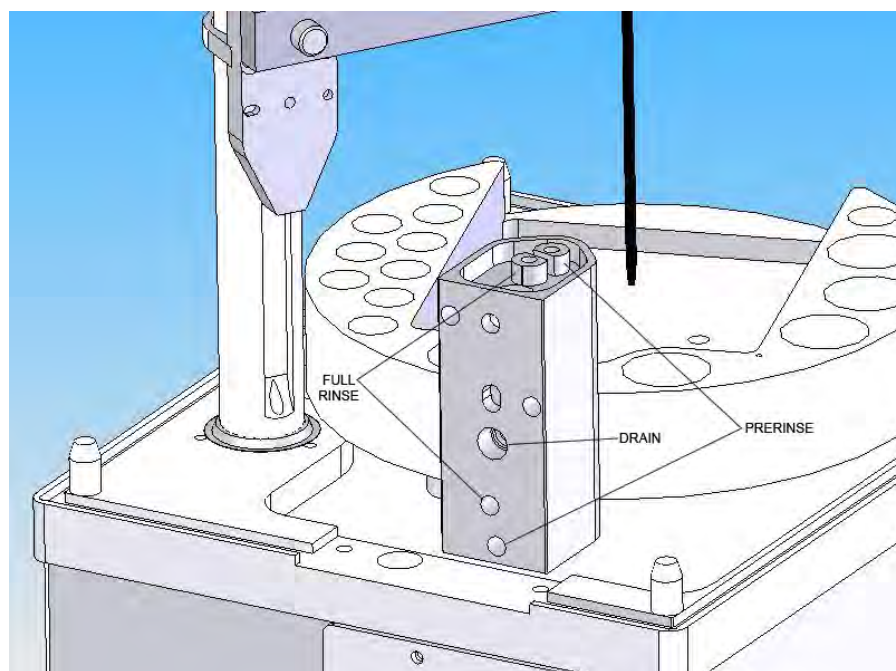

Figure 3-3. Dual Flowing Rinse Station.
The cabinet-mounted rinse station is located at the back of the autosampler within the cover. The ASX-110FR provides the ability to use two separate rinse solutions in a dual flowing rinse station as shown in Figure 3-3. Typically, de-ionized water is used as a pre-rinse solution and an acid solution, such as 2% HNO_3 , is used as the primary rinse solution. The dual flowing rinse solutions may be pumped into the rinse station by either an on-board peristaltic pump or with a gas displacement pump.
- 2 Use two lengths of approximately six inches (15 centimeters) of the 1/8 inch (3-millimeter) I.D. Tygon® tubing provided for the rinse solution uptake. Insert one section of tubing onto each of the two lower fittings for the pre-rinse and main rinse inputs on the back of the rinse station as noted in Figure 3-3.**
- 3 Use one length of approximately 72 inches (1.8 meters) of the 3/16 inch (5-millimeter) I.D. Tygon® tubing provided for the rinse drain. Insert one end into the upper drain fitting on the back of the rinse station as noted in Figure 3-3.**
- 2 Use two lengths of approximately eight inches (20 centimeters) of the 0.020 inch (0.5-millimeter) PFA tubing provided for the rinse solution uptake. Insert one section of tubing onto each of the two lower fittings for the pre-rinse and main rinse inputs on the back of the rinse station (shown in Figures 3-3 and 3-5). Apply gentle pressure to the tubing while tightening the fittings. The fittings should be as tight as you can get them using just your fingers.**
- 3 Use one length of approximately 72 inches (1.8 meters) of the 3/16 inch (5-millimeter) I.D. Tygon[®] tubing provided for the rinse drain. Insert one end into the upper drain fitting on the back of the rinse station as noted in Figure 3-3.**